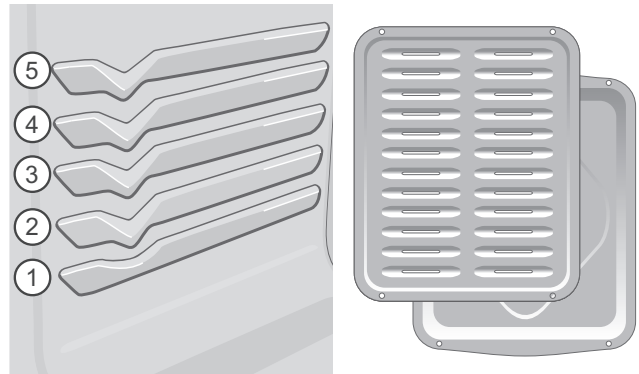

Figure 33: Broil rack positions and broil pan with insert
2. Position bakeware in oven to the preferred rack position. (Figure 33).